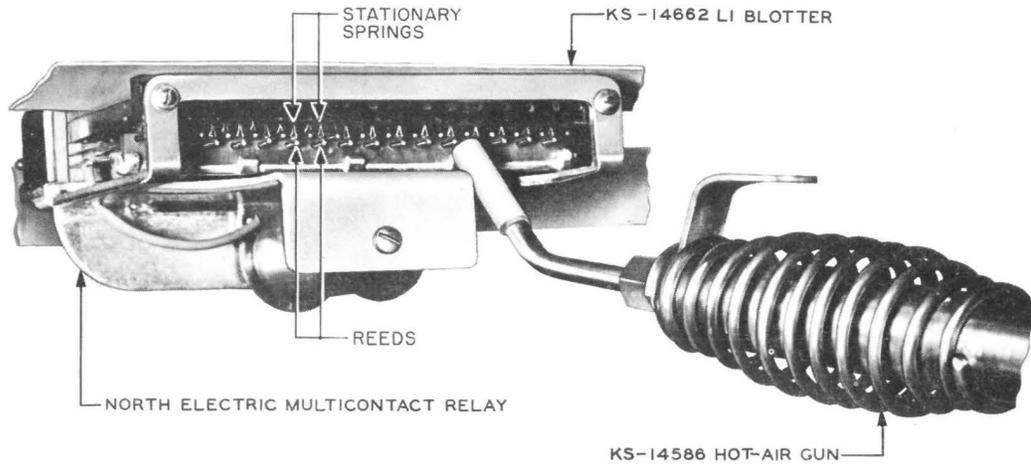

Fig. 3 – Removing Contact Protectant
3.04 KS-14662 L1 Blotter: Cut a KS-14662 L1 blotter so that it will fit snugly between the uprights of the frame on which the relays are mounted. Place the blotter on the top of the relays to be cleaned so that it is above the contacts and projects about 1/2 inch beyond the ends of the springs. See Fig. 3.
4.03 Clean the relay contact springs by directing the hot air from the gun upward against the springs, as shown in Fig. 3. Keep the nozzle of the gun approximately 1/16 inch below the springs. Move the nozzle slowly in and out below the contacting portion of the springs to melt and blow the old contact protectant and other debris from the springs onto the blotter.
8. To omit Fig. 3 of previous issue.